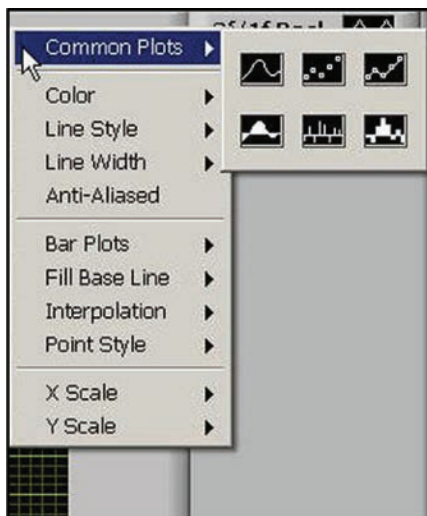

Figure 69: Options for graphing data
2. If you right-click on any series of data within the graph, or you click on the current parameter being-trended item in the legend, you will see a variety of options for graphing data (see *Figure 69* below). You can change to a variety of common plots and adjust color, line style, and line width. For some data sets with lots of finite points, you may want to click *anti-aliased* which will smooth the plot line. You can also change bar plots, fill base line, interpolation and point style. *X-scale* adjusts the x-scale. *Y-scale* adjusts the y-scale and enables the secondary y-axis.